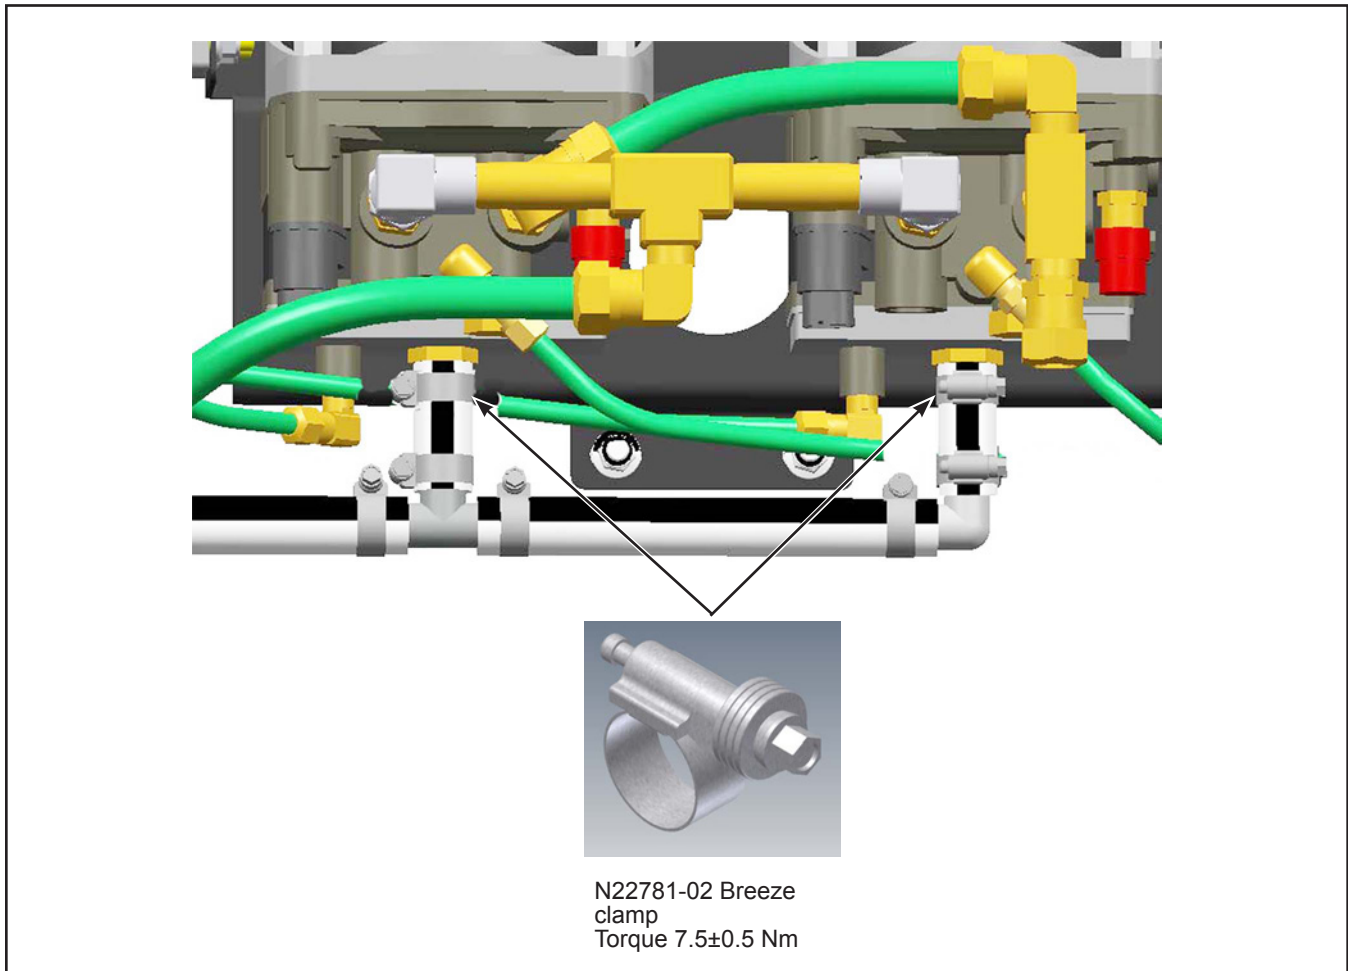

Figure 5 - Hose Assembly Affixed to the Air Dryer
- 1.5. Affix the assembly to the air dryer with the two N22781-02 breeze clamps. See Figure 5 for the torque.